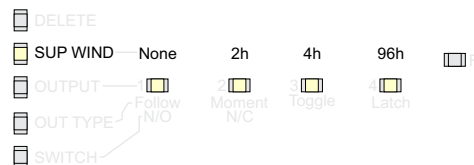

Figure 4 Select the supervision window
3. Use the advance button to choose a supervision window of None, 2h, 4h and 96h (Fig. 4).